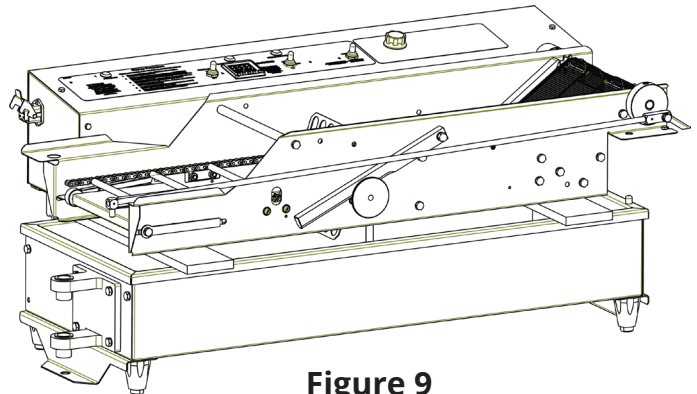

Figure 9
3. Place the conveyor on a clean surface to dry. You can also use two pieces of wood approximately 1" x 3" x 15." Place on top of the kettle and then rest the conveyor on top of the wood as shown in Figure 9.